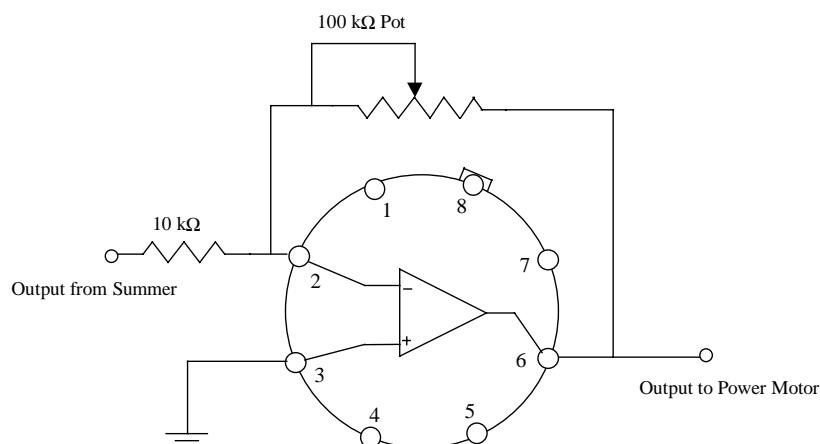

Figure 22a: Circuit diagram of power amplifier
The pins of the power op amp are the same as the 741 op amp you have been using, but the appearance is round instead of rectangular. There is a small square tab over pin eight to show pin locations. This is shown in Fig. 22a.
12. Connect the power op amp and pot as shown in Figs. 22a-b. The easiest way to connect the power op amp is to bend the pins into the same position as they were in the 741 op amp. The pot should be connected using the bottom two terminals, so that the resistance is increasing as the knob is turned to the right. It is a common mistake to forget to give the power op amp supply voltage (because you did that in the beginning for the rest of the op amps).